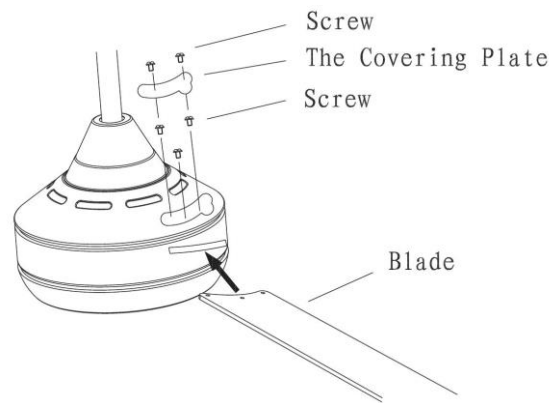

Fig 4.
3. Remove the two screws from the covering plate on top of the motor housing (Fig. 4), and remove the plate.
4. Insert the blade through the slots around the motor. Align the blade with the three holes, and secure the three screws through the opening exposed when the covering plate was removed. If the holes do not align, the blade is upside down. The blade is designed to fit snugly; the screws should be vertical with the blade. Tighten all blade screws evenly and securely to ensure quiet, wobble free operation of the fan. Repeat this process for all blades. Replace the covering plate on top of the motor housing. Fig.4.